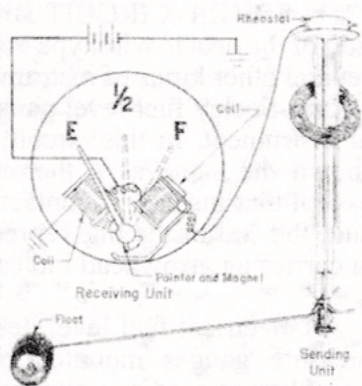

Fig. 4 Balanced Coil Type Gauge
(3) **BALANCED COIL TYPE.** Fig. 4 illustrates a balanced coil type fuel gauge. In this circuit a rheostat is also used in the sending unit.